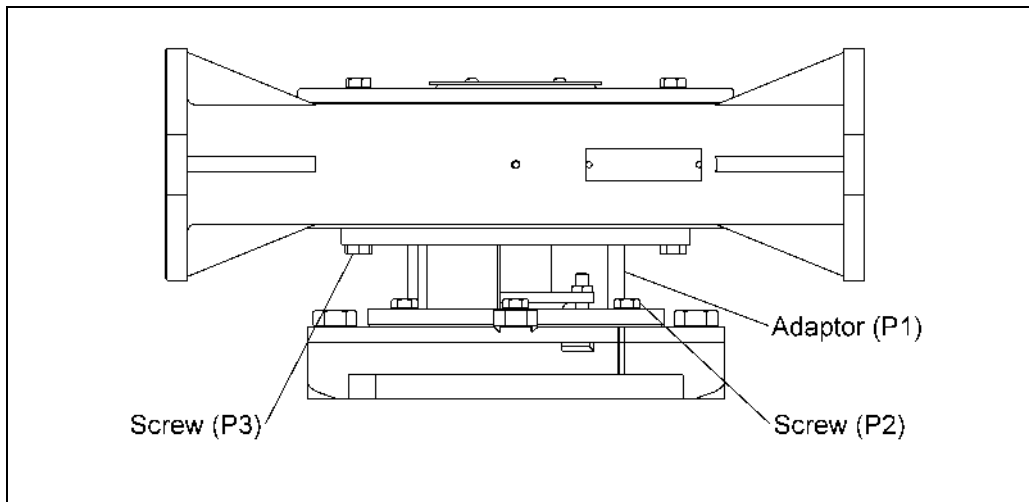

Figure 4 – Connecting Parts Identification
4. Remove screws (P3) and lift actuator assembly off adaptor (P1). See Figure 4 for connecting parts identification.
2. Fasten the actuator assembly to the adaptor (P1) with screws (P3). See Figure 4 for connecting parts identification.